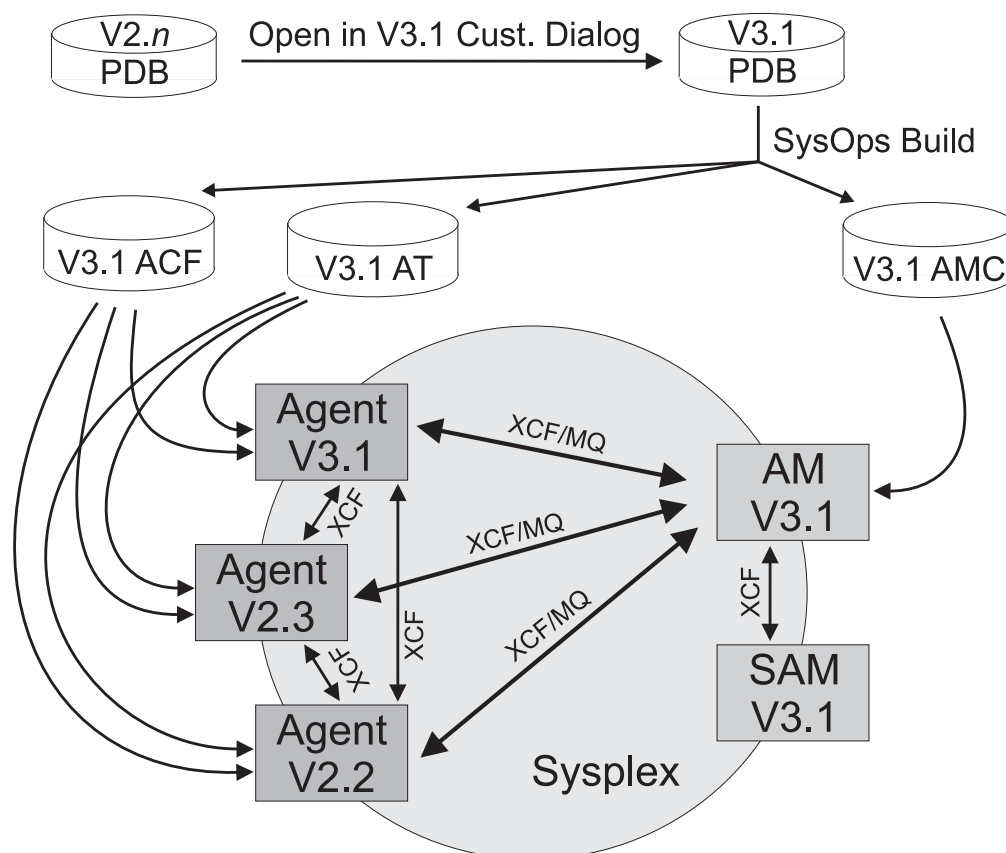

Figure 28. Coexistence of SA OS/390 2.2, SA z/OS 2.3, and SA z/OS 3.1
- SA z/OS 3.1 systems can coexist with SA z/OS 2.3 and SA OS/390 2.2 systems within the same sysplex. Figure 28 on page 225 illustrates this: it shows a sysplex with three automated systems and a separate automation manager (and its secondary).